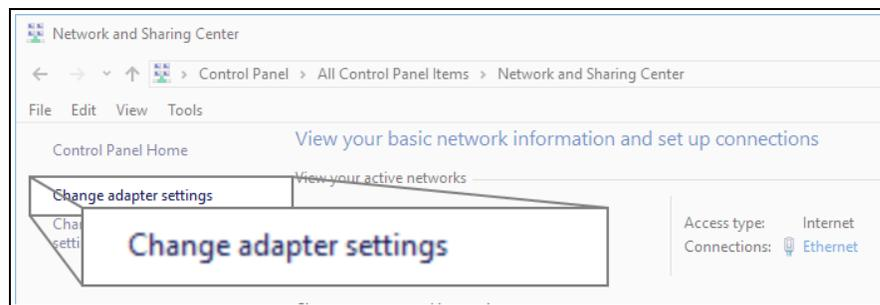

Figure 127: Change Adapter Settings Link
4. Click the **Change Adapter Settings** link. Figure 127